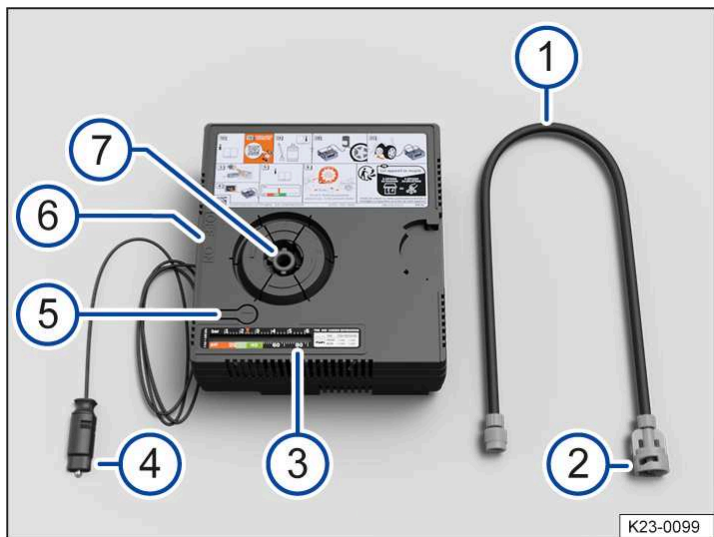
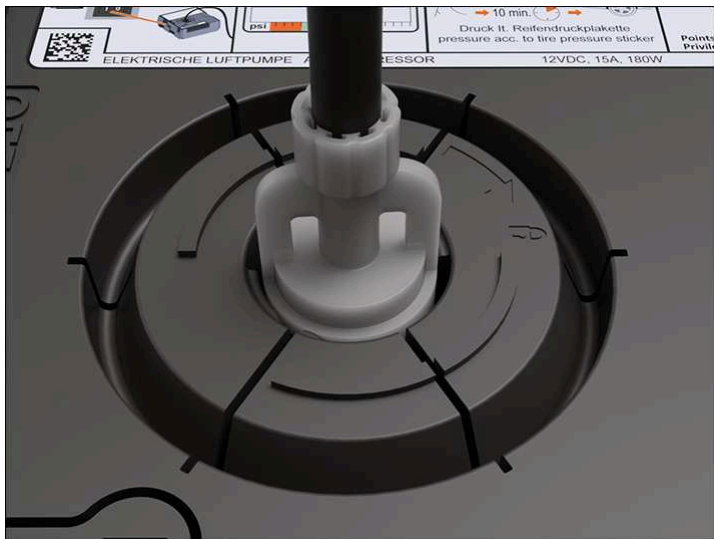

Fig. 2 Compressor in the breakdown set (illustration).
Fig. 3 Connecting the tyre filler hose.
1. Remove the tyre filler hose → Fig. 2 ① from the rear of the compressor.
2. Insert the tyre filler hose → Fig. 2 ① with the wing nut ② into the mount for the tyre filler hose ⑦ so that the wing nut is pointing to  → Fig. 3.
3. Turn the wing nut → Fig. 2 ② in clockwise direction until the wing nut is pointing to  → Fig. 3.
4. Screw the tyre filler hose → Fig. 2 ① of the compressor tightly onto the tyre valve.
6. Insert the 12-volt plug → Fig. 2 ④ into one of the vehicle's 12-volt sockets (→ Sockets).
7. Switch on the compressor with the ON/OFF switch → Fig. 2 ⑥.